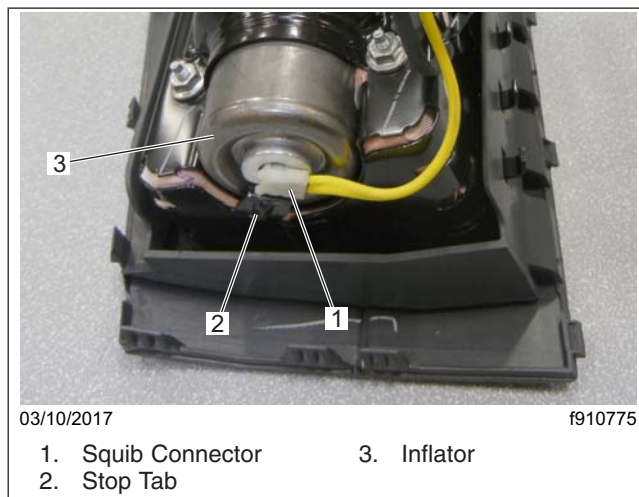

Fig. 9, Inflator Squib Connector
15. Position the inflator retaining clip in place, then attach the clip and the inflator to the airbag housing, using the four new flange nuts supplied in the kit. See Fig. 9. Tighten the flange nuts 53 lbf·in (600 N·cm).